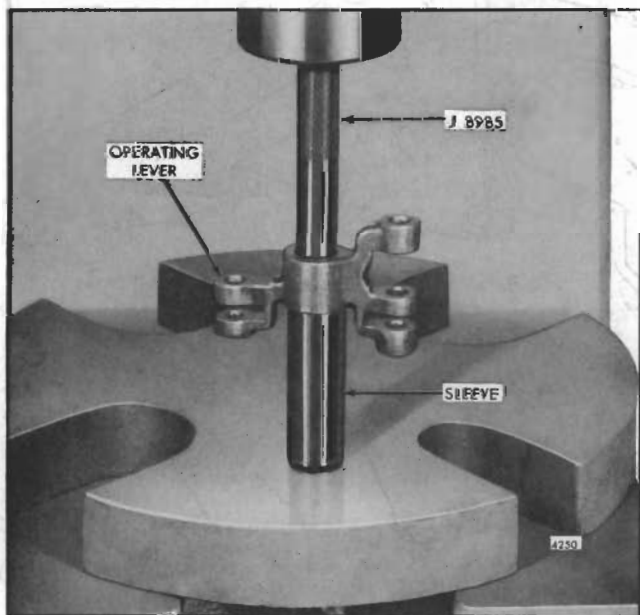

Fig. 14 - Removing Operating Lever Needle Bearings
- m. If removal of the needle bearing is necessary, support the control link operating lever on a sleeve and rest the sleeve on the bed of an arbor press. Place tool J 8985 on top of the bearing and press both bearings out of the lever as shown in Fig. 14.